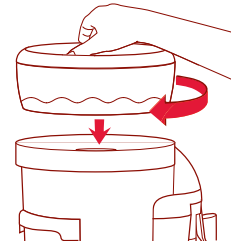

Figure 1
2. Place the Ice Reservoir on the unit. Twist clockwise to lock into place. *Figure 1*